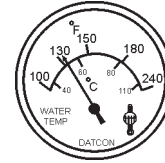

Figure 47. Coolant Temperature Gauge
10. The **coolant temperature gauge** (Figure 47) will indicate the coolant temperature. Under normal operating conditions the coolant temperature should be between 167°~203°F (75°~95°C) (**Green Zone**).